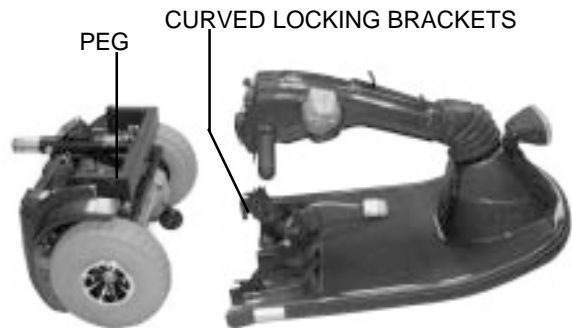

Figure 19. Frame Sections
1. Position the front and rear sections of your scooter as shown in figure 19.
3. Holding the seat post, slowly pivot the rear section forward until the curved locking brackets are fully connected onto the top rear pegs. See figures 19 and 20.